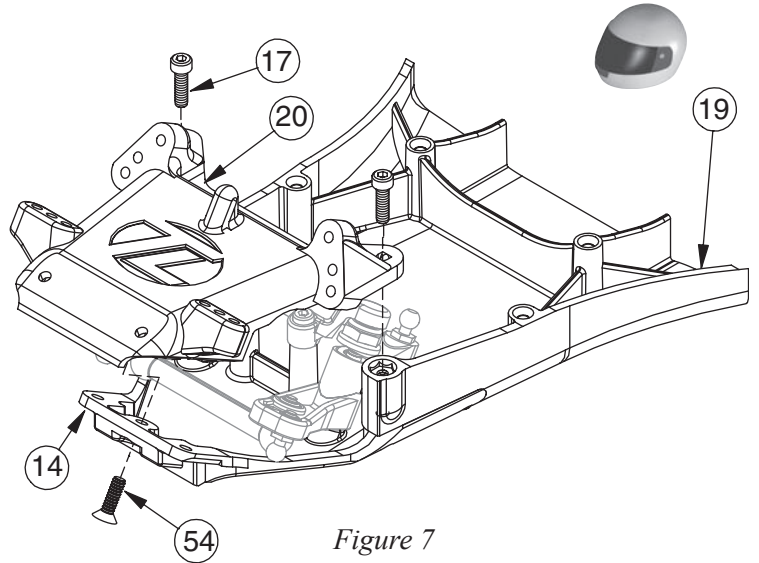

Figure 7
1. Position the front Bulkhead (20) on top of the front Kickplate (14) and main Chassis (19) as shown in Figure 7. Secure the front Bulkhead to the Chassis by threading two 4-40 x 3/8" Cap Head Screws (17) through the hole in the top of the Bulkhead and into the Threaded Inserts in the Chassis.
2. Secure the front Kickplate to the front Bulkhead by threading a 4-40 x 3/8" Flat Head Screw (54) through the center hole in the front of the Kickplate and into the Bulkhead.